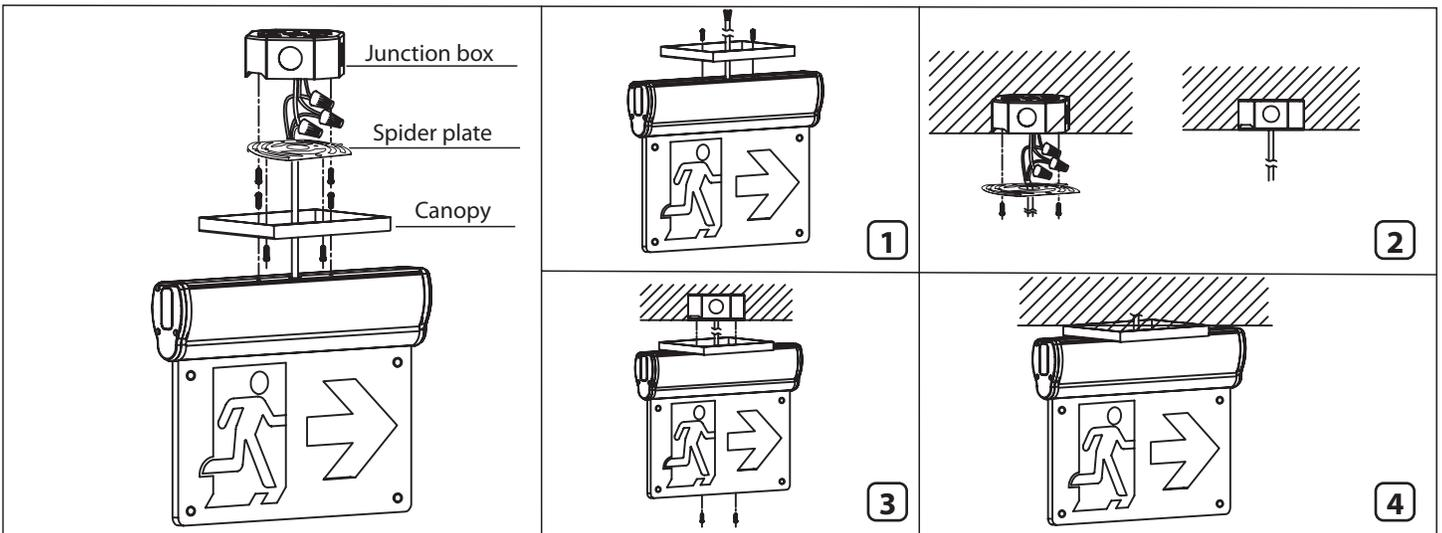

Fig. 3
2. Use keyhole slots for secure mounting, ensuring wires have 8 inches of slack. (Fig. 3)